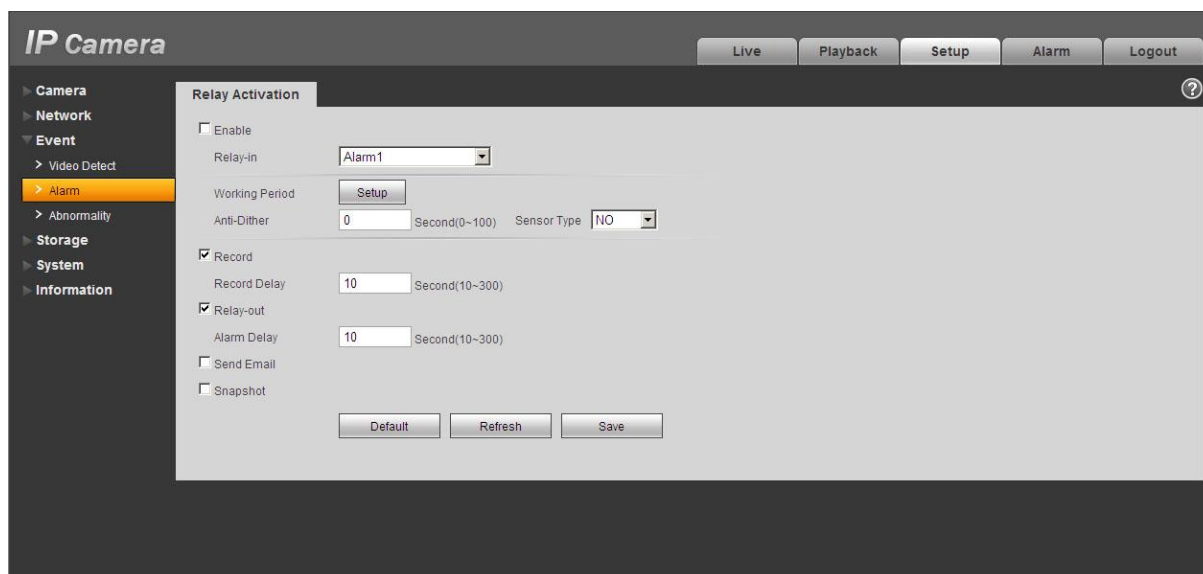

Figure 2-5 Alarm
The alarm interface is shown as in Figure 2-5. Please follow the steps listed below for local alarm input and output connection.
- 3) Open the Web, go to the Figure 2-5. Please set the alarm input 01 port for the first channel of the I/O cable (red). The alarm input 02 is for the 2nd channel of I/O cable (orange). Then you can select the corresponding type (NO/NC.)